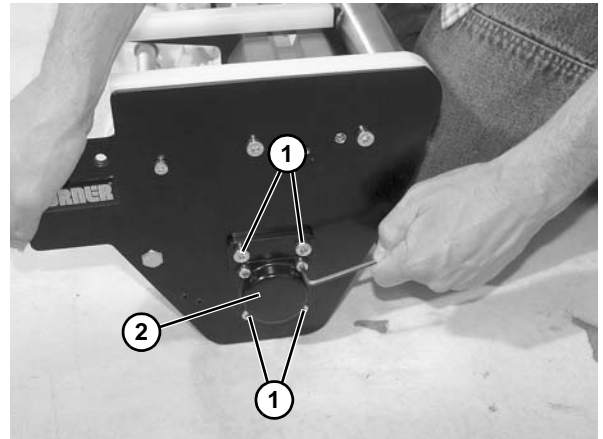

Figure 55
7. On the non-drive side, remove four socket head screws (Figure 55, item 1) and cover (Figure 55, item 2).